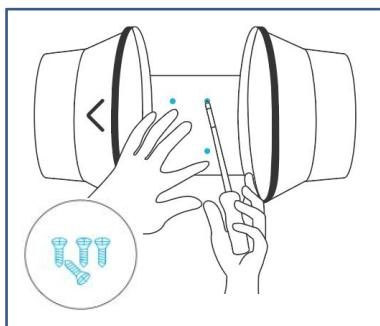

Fig.7.
- 3、Align the flange bracket's holes with the wall anchors. Screw in four wood screws with a screwdriver or drill to secure the flange bracket. Make sure its airflow arrow is pointing in your desired direction. See the (Fig.7.)